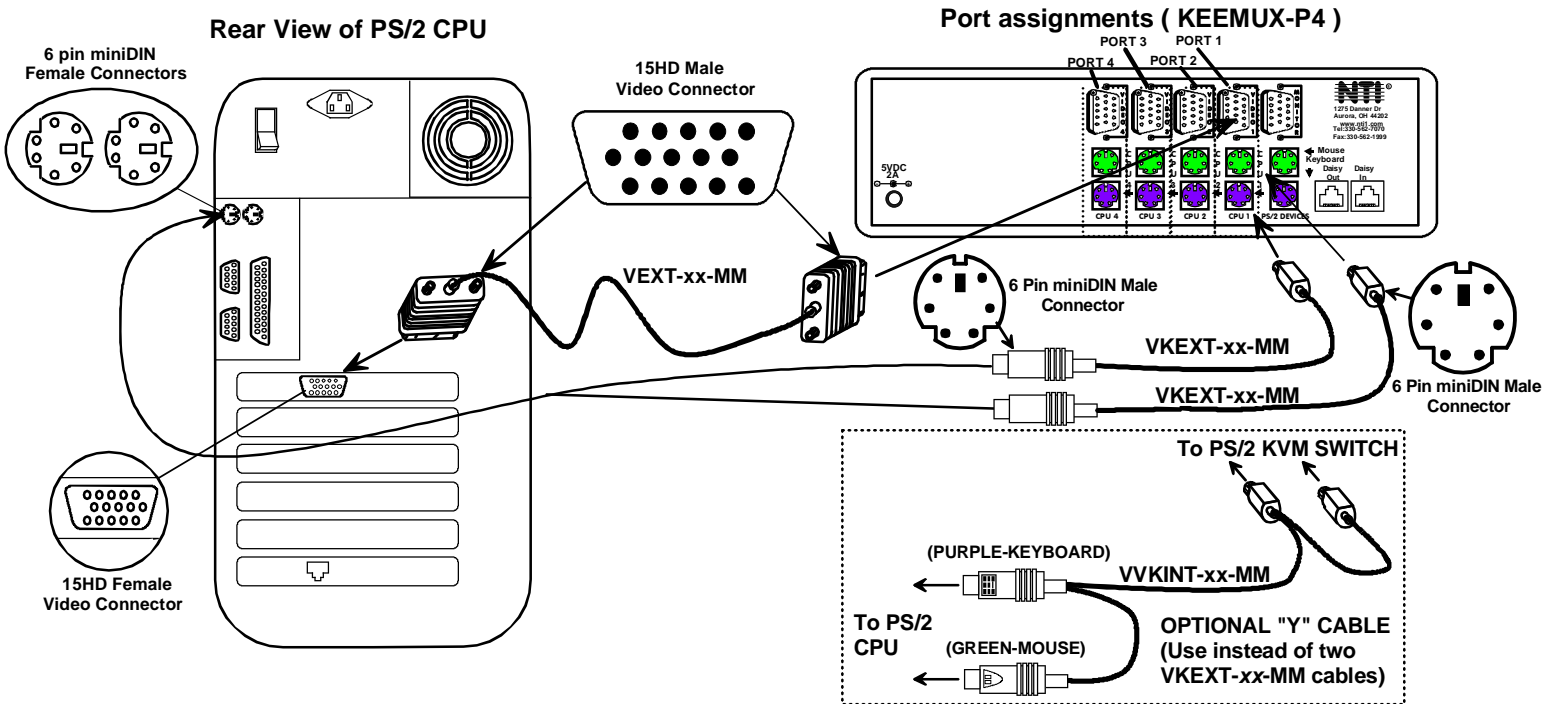

Figure 4- Connect a CPU to the KEEMUX
- Connect each CPU to the keyboard, monitor and mouse ports using VEXT-xx-MM for the monitor and VKEXT-xx-MM (2) for the mouse and keyboard– REQUIRED (not supplied). See Fig. 4.